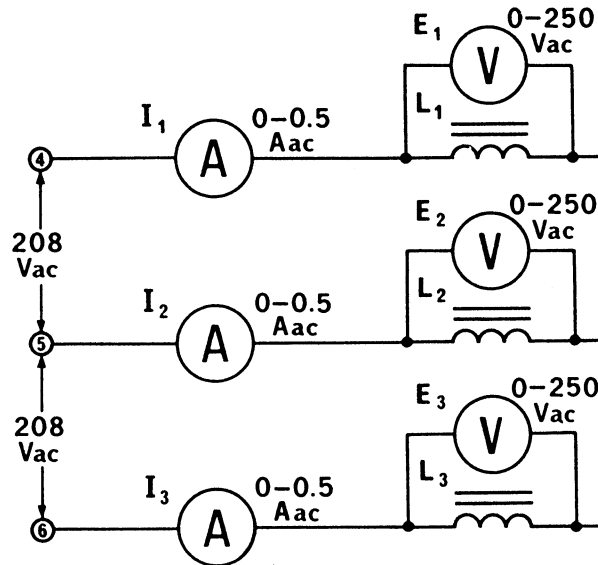

Figure 46-1.
- 1. a. Using your Inductive Load, Power Supply, AC Ammeter, and AC Voltmeter, connect the WYE circuit shown in Figure 46-1. Use a separate inductance section for each of the loads L_1 , L_2 and L_3 . Do not connect the neutral of the inductance module to the neutral of the power supply.